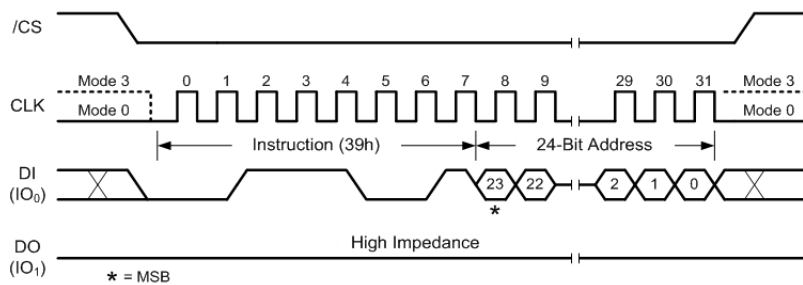
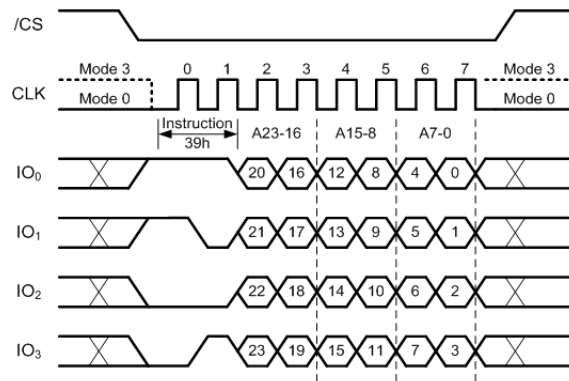

Figure 19: Individual Block/Sector Unlock Instruction (SPI Mode)
Figure 20: Individual Block/Sector Unlock Instruction (QPI Mode)
To unlock a specific block or sector as illustrated in Figure 19 and Figure 20, an Individual Block/Sector Unlock command must be issued by driving /CS low, shifting the instruction code “39h” into the Data Input (DI) pin on the rising edge of CLK, followed by a 24-bit address and then driving /CS high. A Write Enable instruction must be executed before the device accepts the Individual Block/Sector Unlock Instruction (Status Register bit WEL = 1).